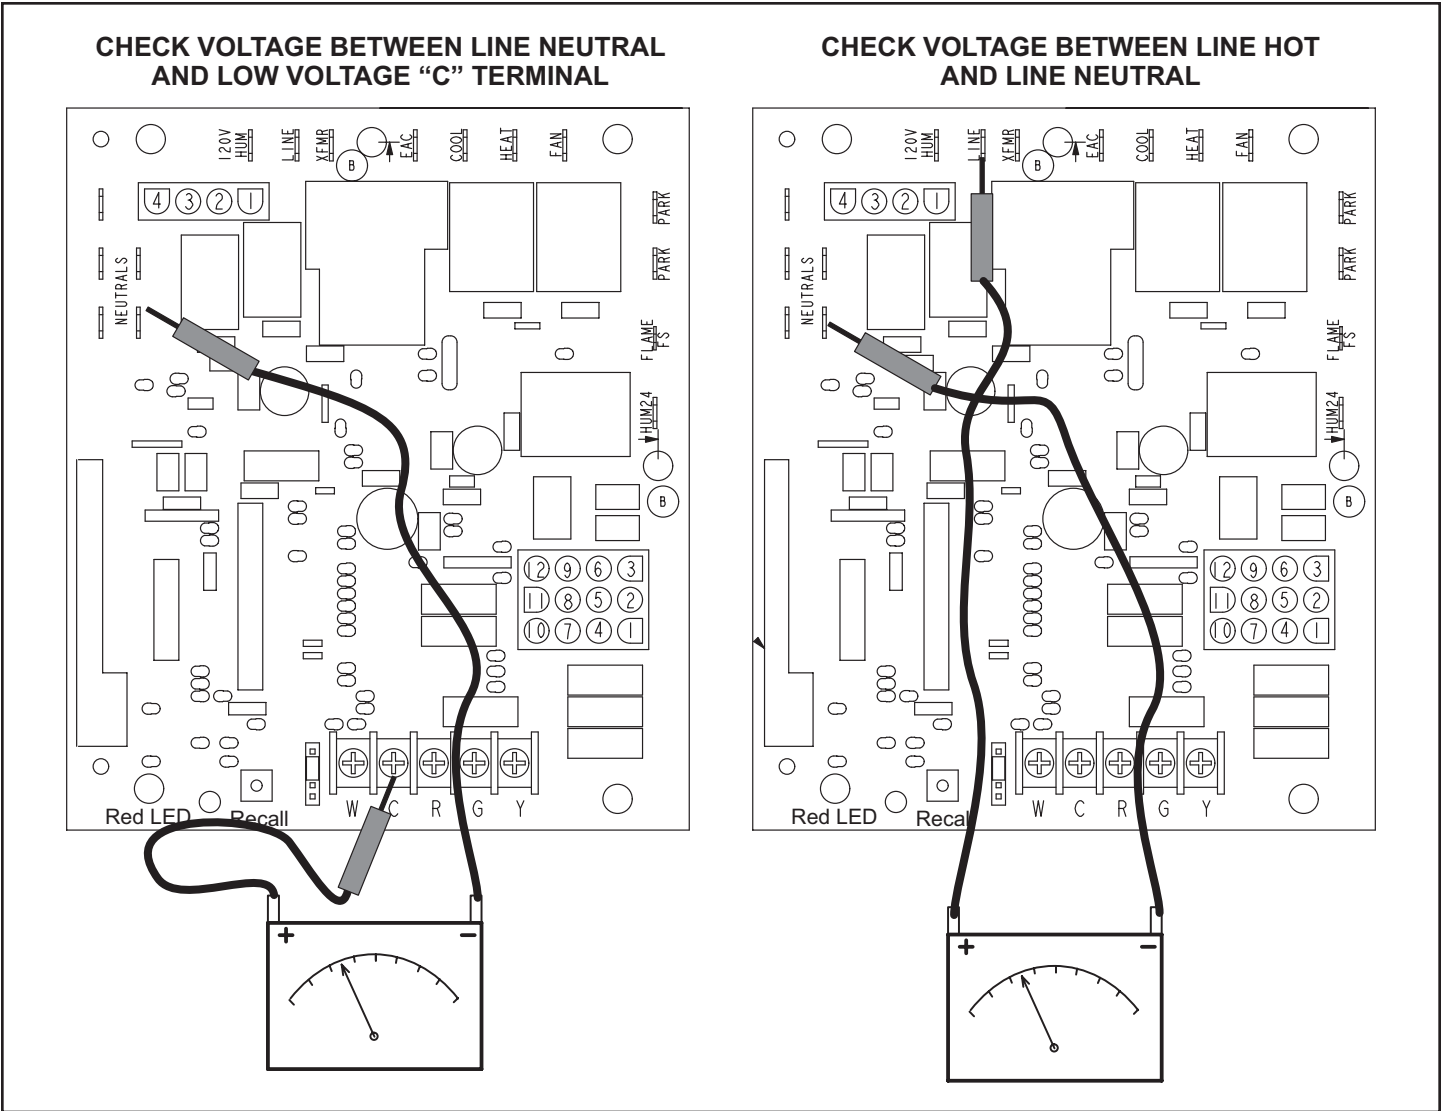

Figure 17.
- 1. Measure the AC voltage between Line Neutral (spade terminals) and “C” terminal (low voltage terminal block) on the integrated control. See Figure 17. A wide variation in the voltage between Line Neutral and “C” as a function of load indicates a poor or partial ground. Compare the readings to Table 12. If the readings exceed the maximum shown in Table 12, make repairs before operating the furnace.
- 2. In addition, measure the AC voltage from Line Hot to Line Neutral (spade terminals) on the integrated control. See Figure 17. This voltage should be in the range of 97 to 132 VAC
Blower speed tap changes are made on the integrated control. See Figure 3 or Figure 17. The heating tap is connected to the "HEAT" terminal and the cooling tap is connected to the "COOL" terminal. On all units the continuous blower tap is connected to the "FAN" terminal. Unused taps must be secured on two dummy terminals labeled "PARK". To change out existing speed tap, turn off power and switch out speed tap with tap connected to "PARK". See blower speed tap table on unit diagram for motor tap colors for each speed.